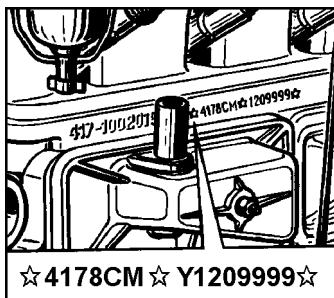

Fig. 6. Location of Engine Number
**The engine number** is indented on the l.h. side of the cylinder block (Fig. 6).